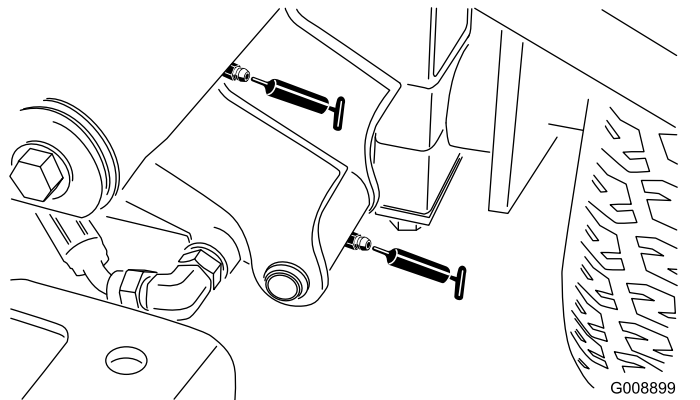

Figure 64
- Left front lift arm pivot and lift cylinder (2 fittings—Figure 64)